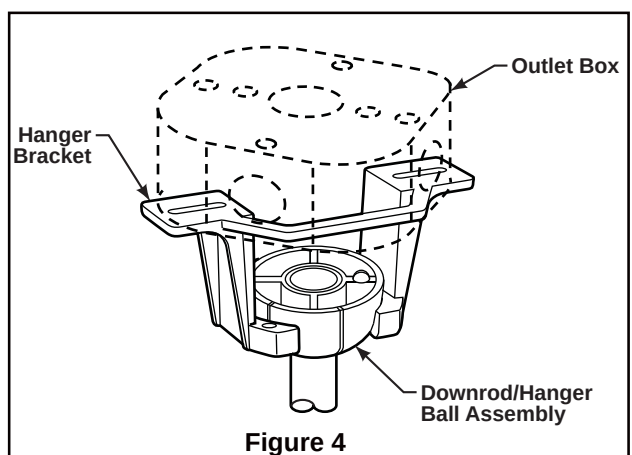

Figure 4
2. Carefully lift the fan and seat the downrod/hanger ball assembly on the hanger bracket that was just attached to the outlet box. Be sure the groove in the ball is lined up with tab on the hanger bracket. (Figure 4)